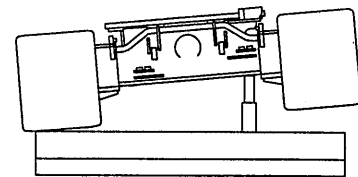

Fig. 11-46
- (7) Remove the blocks and retract the crawler. (Fig. 11-46).